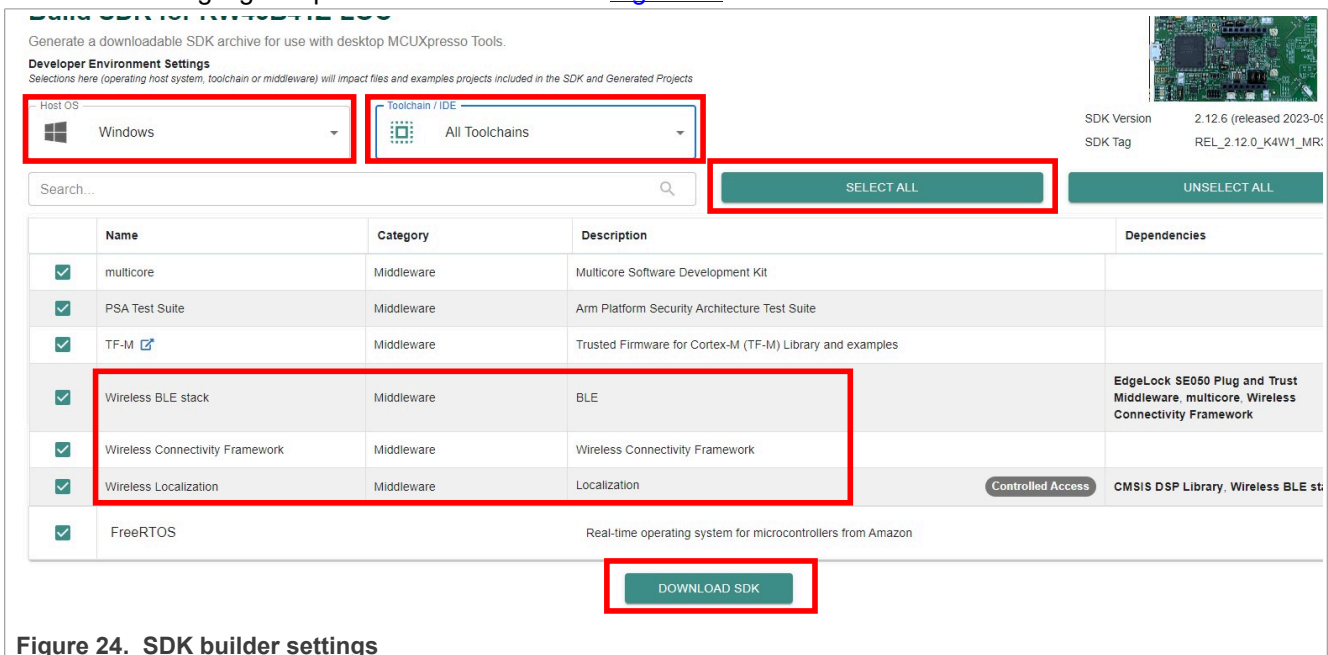

Figure 24. SDK builder settings
7. Select the highlighted preferences as shown in Figure 24.